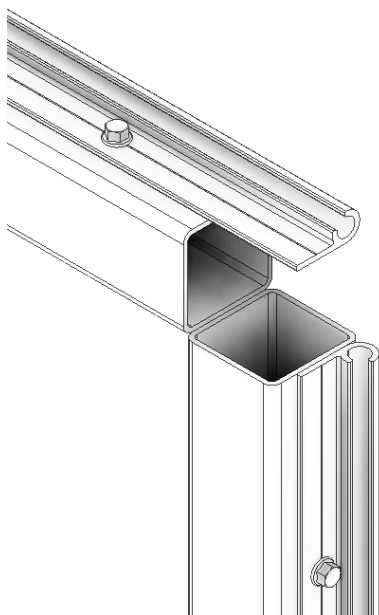

fig.2
STEP 2. Remove the end-screws from the top profile and the side profiles to fix the angle bracket. (Fig.2)